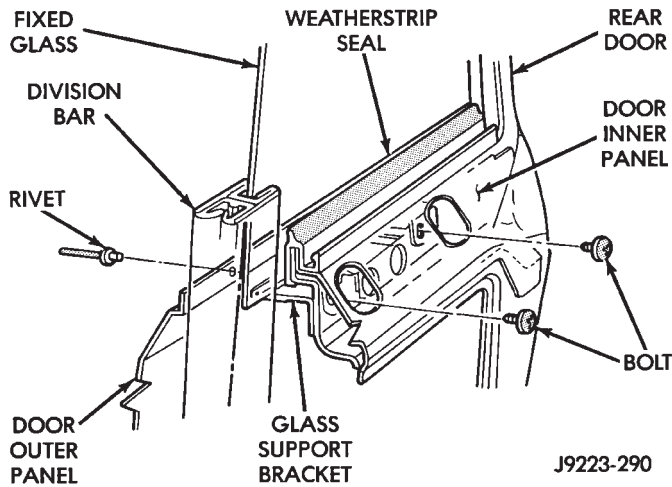

Fig. 66 Fixed Glass Support Bracket Bolts
- (2) Pry the window beltline moulding away from the clips and remove the moulding from the door.
- (3) Remove the window weatherstrip seals from the door.
- (4) Remove the trim panel and waterdam from door inner panel.
- (5) Remove the channel/division bar screws. Drill out the rivet head to remove it from the inner panel.
- (6) Tilt the channel/division bar forward and remove it from the door.
- (7) Remove the fixed glass support bracket bolts from the door inner panel reinforcement bracket (Fig. 66).